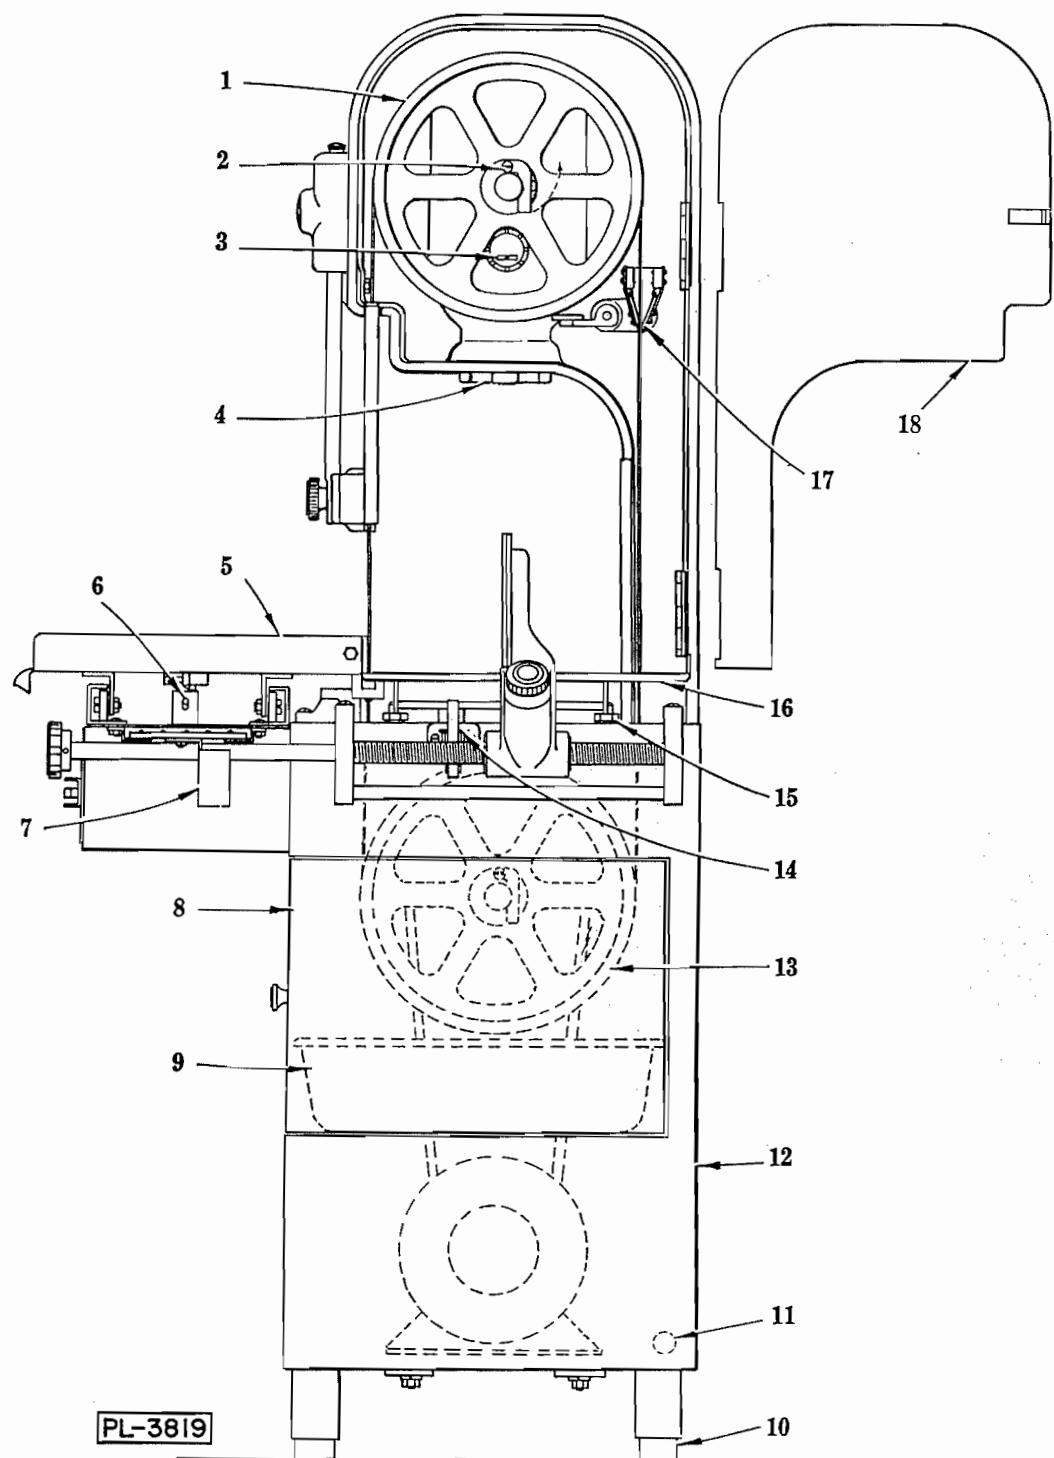
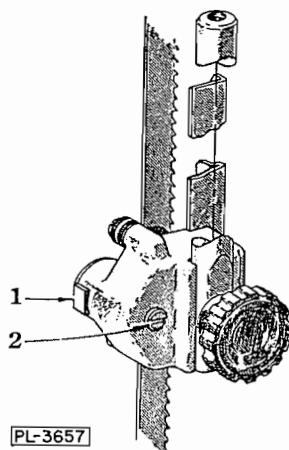
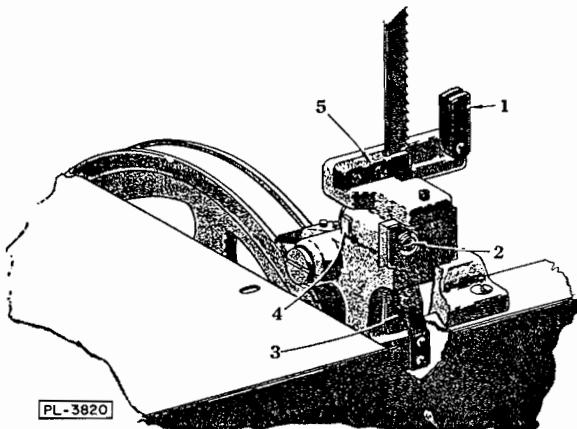
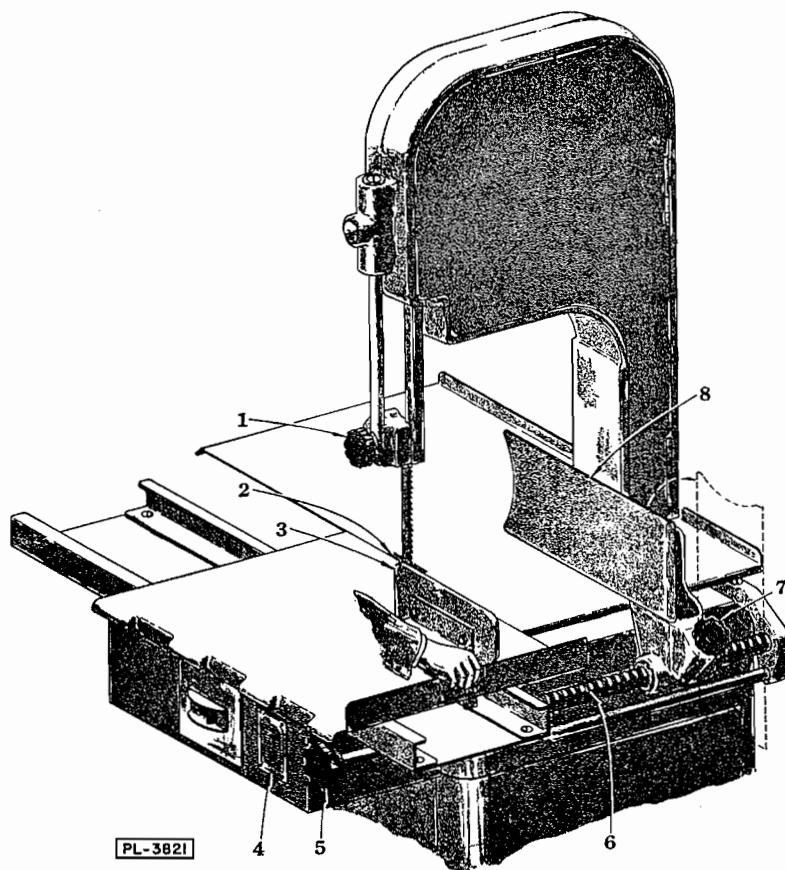

FIG. 1
FIG. 2
FIG. 3
FIG. 4
(1) Place the machine in the location where it is to be used. Assemble the feet (10, Fig. 1). Place a spirit level on top of the base unit and adjust the feet in the legs so that the base unit is level from side to side and front to back.
(2) Lower the upper blade pulley (1, Fig. 1) by giving the tension adjustment hand wheel (4, Fig. 1) a few turns to the left. Open the head door (18, Fig. 1). Lift out the lower wiper unit (Fig. 3) and place the saw blade over the upper (1, Fig. 1) and lower (13, Fig. 1) blade pulleys. The teeth must point to the right and downward when viewed from the front as shown in Fig. 3. If they do not point downward, remove the blade, twist inside out and replace it on the saw. Make sure the blade is centered in the upper blade wiper (17, Fig. 1) and properly placed in the upper guide unit (Fig. 2).
Turn the tension adjustment hand wheel (4, Fig. 1) to the right until the tension indicator (3, Fig. 1) reads "2". Give the upper pulley a few turns by hand so that the blade centers itself on the pulleys, then turn the tension adjustment hand wheel slowly to the right until the indicator registers between "3" and "4". This is the best operating tension for the blade.
(3) Put in the lower wiper unit (Fig. 3). Before sliding it into place, swing up the bakelite guard (1, Fig. 3) and see that the saw blade is between the two wipers (3, Fig. 3) and in the guide slot of steel block (5, Fig. 3). After sliding the unit into place, close down the bakelite guard (1, Fig. 3).
(4) To put on the table (16, Fig. 1), swing gage plate (8, Fig. 4) to vertical position, clear of table area. Locate table into position by the locating block (2, Fig. 4), being sure the support angles on the underside of the table are inside the locating pins of the four table rests (15, Fig. 1) on the base (12, Fig. 1). Then lock in place by closing the spring catches (14, Fig. 1) at each end.
(5) The carriage (5, Fig. 1) may be put on from either side. While rolling it into place, hold down the carriage stop (6, Fig. 1). When the stop is released, it will prevent the carriage from rolling off.
Before connecting to the power line, check the data on the name plate (4, Fig. 4) to make sure that the motor is correct for your electric service. Make your installation connection from the power line directly to the switch. In order to avoid having conduit at the front of the machine, it is recommended that flexible (or rigid) conduit be connected through the electric inlet hole in the base (11, Fig. 1). The motor and switch are connected at the factory.
(1) **UPPER GUIDE ASSEMBLY** (Fig. 2). Keep as low as the size of the work permits.
(2) **DOORS.** Keep doors (8 & 18, Fig. 1) closed when the machine is running.
(3) **BUTT-END PUSHER** (3, Fig. 4). Use this device as described in paragraph VI and it will be unnecessary to hold your hand near the running saw blade.
(4) **GAGE PLATE.** The end of the gage plate (8, Fig. 4) is shaped to give maximum support and protection at this critical point, and at the same time, facilitate the taking off of slices.
(2) Apply a few drops of oil occasionally to the gage plate screw (6, Fig. 4) and work the gage plate assembly back and forth a few times.
(3) Once a year, have a Hobart service man look over the motor and main bearing carriers.
When cutting slices of uniform thickness, set the gage plate at the desired point with adjusting knob (5, Fig. 4) on the scale etched on the table. If the gage plate is not needed and interferes with the work, it may be pushed out of the way. Lift the release knob (7, Fig. 4) and slide the gage plate on back to the end of screw (6, Fig. 4). The gage plate may be swung to a vertical position at any setting along the rack without lifting the release knob.
To slice short ends, use the pusher plate (3, Fig. 4) to hold the meat against the gage plate. A groove in the pusher plate slips over and slides along the up-turned edge of the carriage. Hold
the pusher with your right hand as shown in Fig. 4. Your hand will then always be a safe distance from the saw blade and the stop will prevent the pusher plate from going too far. When not using the pusher plate, keep it stored beneath the carriage track as shown at (7, Fig. 1), where provision has been made for holding it.
(1) Roll carriage to extreme right or left. This exposes the carriage stop. Depress carriage stop and roll off stainless steel carriage.
(2) Rotate gage plate to vertical position.
(3) Release table clamps and remove stainless steel table.
(4) Loosen hand knob (that retains upper blade wiper), bump with hand to loosen stud and then remove hand knob. Open head door (18, Fig. 1) and lift out upper blade wiper (17, Fig. 1). Clean unit and lubricate with TASTELESS oil.
(5) Swing lower saw blade guard (1, Fig. 3) up and lift out lower wiper assembly. Clean unit thoroughly and LUBRICATE WITH TASTELESS OIL.
(6) Remove Scrap pan (9, Fig. 1).
(7) Release blade tension by turning tension adjusting hand wheel (4, Fig. 1) to the left. Open head door and swing the upper blade guard down to horizontal position. Remove saw blade.
(8) To remove the upper guide unit (Fig. 2), remove the hand knob (1, Fig. 4) (blade tension already released) then lift off unit. Clean, lubricate with TASTELESS oil and replace.
(9) Remove upper and lower pulleys by swinging the pulley retaining latches (2, Fig. 1) clear of the shafts. Slide pulleys off. Clean pulleys and oil bore before replacing.
the upper blade pulley (1, Fig. 1) by hand to center the blade, and then turn the hand wheel until the indicator registers between "3" and "4". Make sure the upper blade wipers (17, Fig. 1) are on both sides of blade.
At the back edge of the saw blade in the upper guide (1, Fig. 2) and the front lower wiper unit (4, Fig. 3) are special tungsten carbide blade back-up blocks (eliminating the old fashioned ball bearing back-up). These special blocks take the cutting thrust. The clearance between these blocks and the blade, with the saw running without load, should be approximately $1/32''$. Always check this dimension after changing blades. These back-up blocks should be adjusted to suit any variation in blade widths.
NOTE: Adjust the upper back-up block (1, Fig. 2) by turning screw (2, Fig. 2) and lower back-up block (4, Fig. 3) by turning the screw (2, Fig. 3).